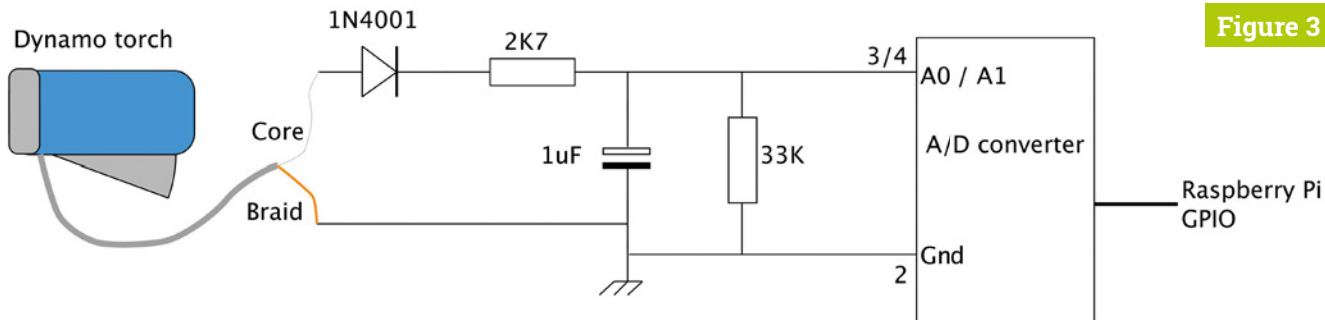
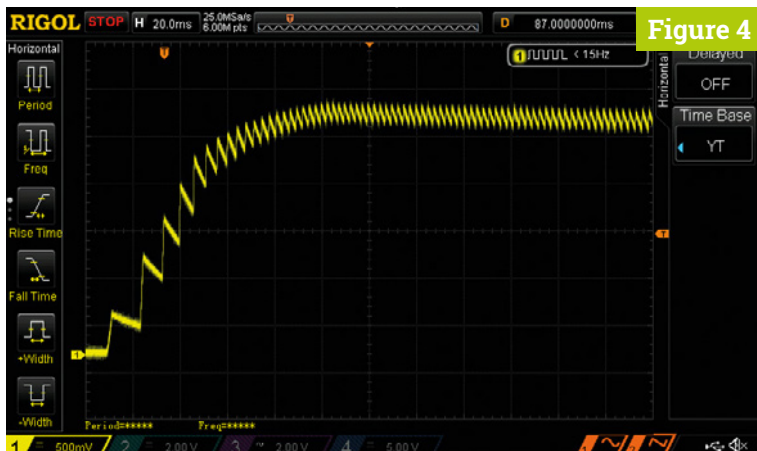

Figure 3
Figure 4
controls the release of the peak. The schematic for this is shown in **Figure 3**. When the signal is passed through this circuit, you get the waveform shown in **Figure 4**. You will need two of these circuits.
- ▲ **Figure 3** Schematic of the signal-conditioning interface
- ▲ **Figure 4** Oscilloscope trace of the voltage output after conditioning